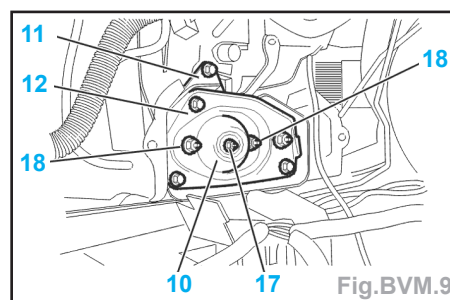

Fig.BVM.9
- Reposer (Fig.BVM.9) :
- le support (11) (2,5 daN.m),
- le silentbloc (10),
- l'écrou (17) (6,5 daN.m),
- le support de silentbloc (12) (3 daN.m).
- Reposer les vis (18) (3 daN.m).